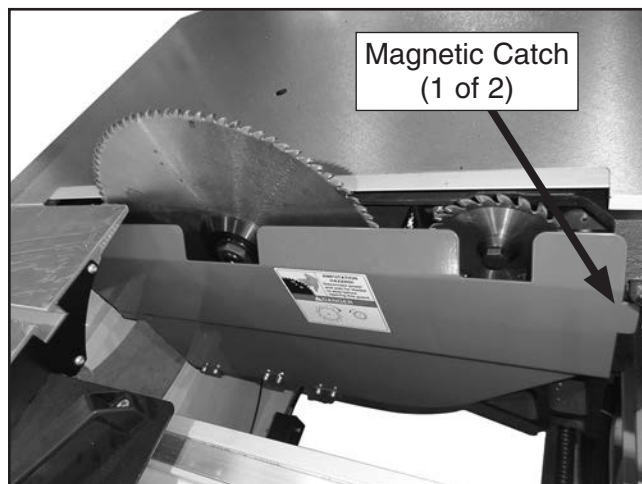

Figure 36. Location of magnetic catches that secure blade cover.
23. Move sliding table all the way forward to expose blade cover. Pull blade cover toward front of machine to disengage magnetic catches (see **Figure 36**).